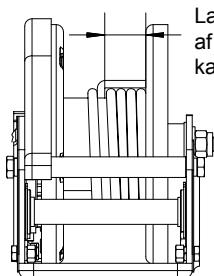

Fig.2
- LAD ALTID MINDST 5 OMGANGE AF BÅNDET/KABLET VÆRE TILBAGE PÅ TROMLEN (Fig. 2)**